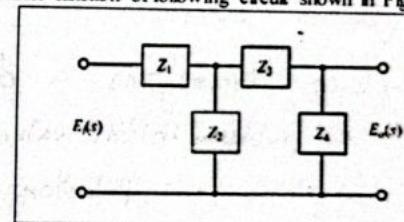

Figure 3.12
**Question 2:** Find the transfer function of following circuit shown in Figure 3.12: